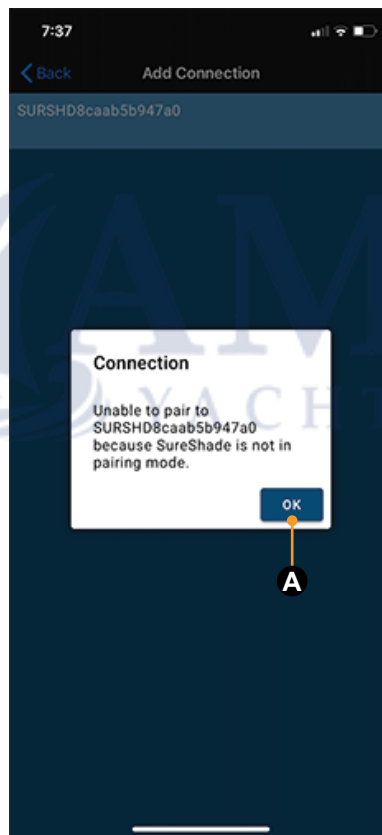

Fig.42
8. Tap one of the listed options (Version) for additional information (Fig. 42). Tap OK (Fig. 42A) when done.